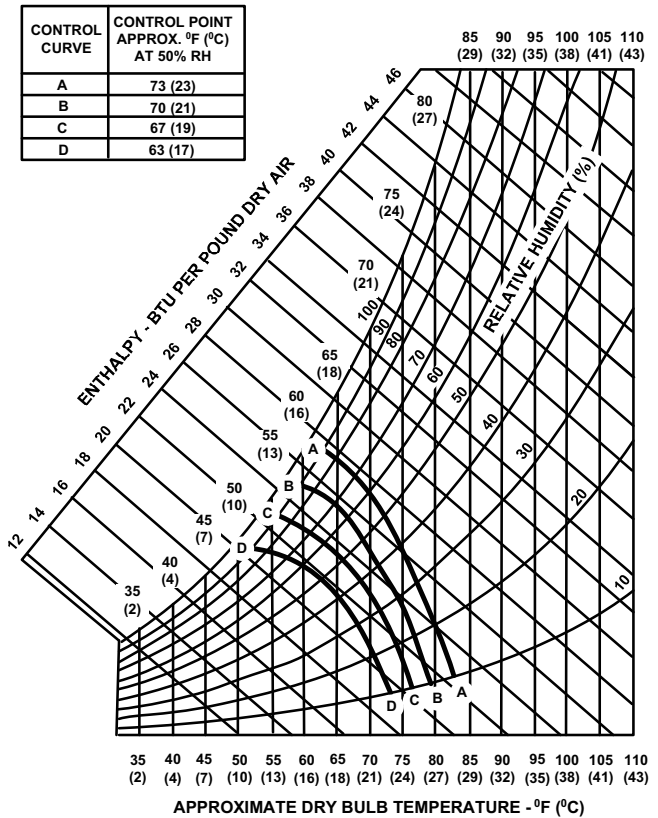

Figure 13: Enthalpy Set Point Chart
- The enthalpy set point may now be set by selecting the desired set point shown in the Enthalpy Set Point Adjustment Figure 13. Adjust as follows: